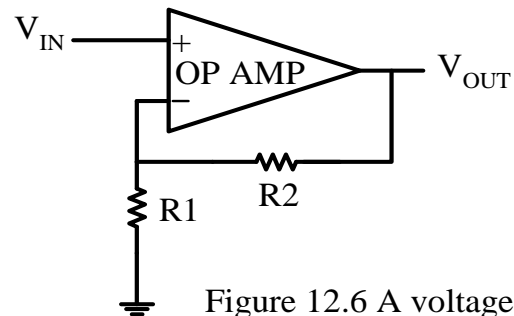

Figure 12.6 A voltage scaler
- Voltage gain of the circuit in Figure 12.6 is